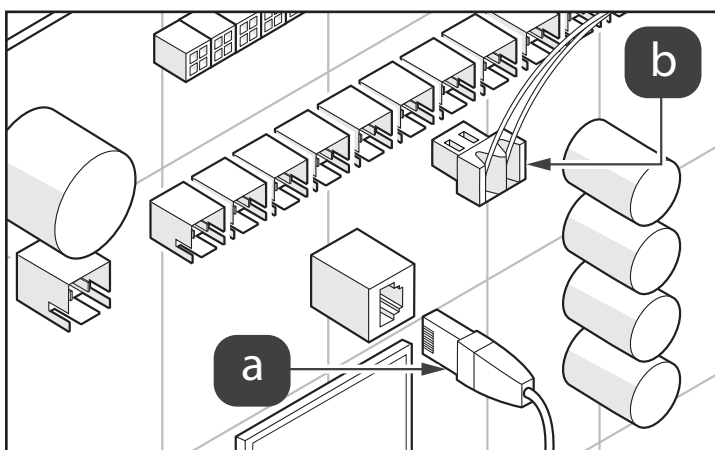

Figure 10. Unplug Auxiliary Relays
11. Disconnect the Ethernet cable, see Figure 10(a).
12. Unplug the auxiliary relays, see Figure 10(b).